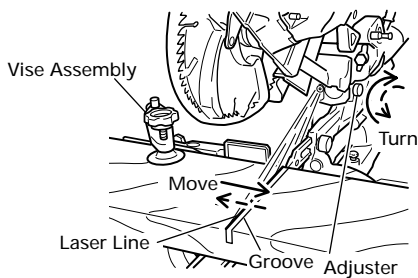

Fig. 20
(1) Light up the laser marker and make a groove of about $3/16$ " (5mm) deep on the workpiece that is about $25/32$ " (20mm) in height and $5-29/32$ " (150mm) in width. Hold the grooved workpiece by vise as it is and do not move it. For grooving work, refer to "11.Groove cutting procedures" on page 25.
(2) Then, turn the adjuster and shift the laser line. (If you turn the adjuster clockwise, the laser line will shift to the right and if you turn it counterclockwise, the laser line will shift to the left.) When you work with the ink line aligned with the left side of the saw blade, align the laser line with the left end of the groove. (Fig. 20) When you align it with the right side of the saw blade, align the laser line with the right side of the groove.
(3) After adjusting the position of the laser line, draw a right-angle ink line on the workpiece and align the ink line with the laser line. When aligning the ink line, slide the workpiece little by little and secure it by vise at a position where the laser line overlaps with the ink line. Work on the grooving again and check the position of the laser line. If you wish to change the laser line's position, make adjustments again following the steps from (1) to (3).